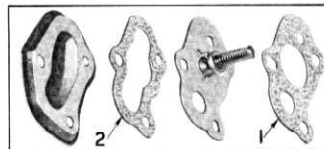

Fig. 73—Oil Distributor Cover and Gaskets
14. On all 1949-52 engines and 1953 standard engines place a new oil distributor to block gasket No. 1 (fig. 73) in position on the left side
CAUTION: *The gasket marked "1" (fig. 73) must be placed between oil distributor and engine block, and the one marked "2" must be placed between distributor and cover.*